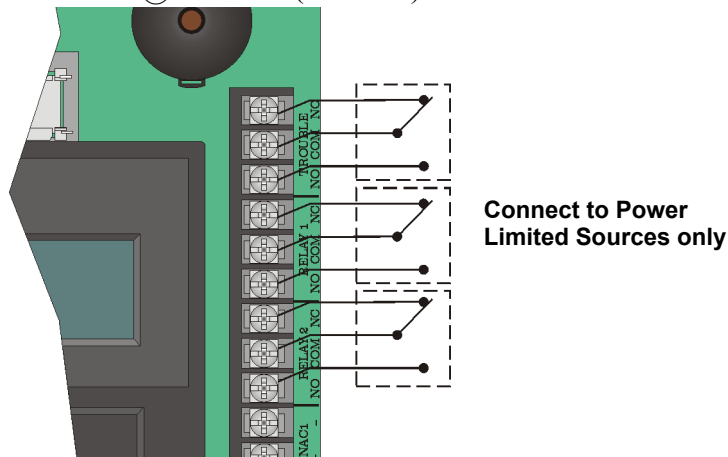

Figure 4-30 Location of Conventional Relay Circuits
1. Wire Relay 1 and/or Relay 2 as needed for your application. See Figure 4-30 for the location of the relay terminals.